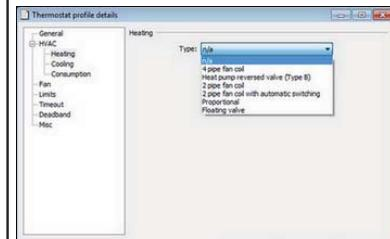

Figure 44
- Click the plus sign in front of **HVAC** in the left pane of the **Thermostat profile details** dialog; the three alternatives **Heating**, **Cooling** and **Consumption** are shown. At **Heating**, make the applicable choice in the drop-down-menu; the available alternatives are shown in Figure 44. For the below alternatives, further settings can be made; click the links for details.